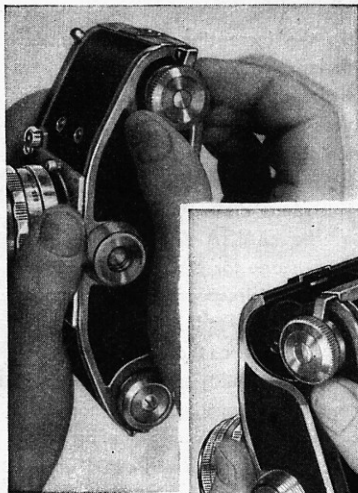

Fig. 4
Hold the camera (Fig. 4) with your left hand. Pull out the button (1) with your right hand and fix it by a short turn either to the left or to the right. Pull away the hinged camera back (40) from the camera body with your right index finger on the lock of the camera back (2) (Fig. 5). The camera back (40) is connected with the body by a hinge. When loading the EXAKTA Varex be careful not to press the dangling camera back against your body, otherwise the hinge may be damaged, so that the camera back (40) could not be shut properly, thus causing penetration of straylight. When closing the camera back (40) take care that it engages correctly in the groove on the camera body. Press the camera back (40) slightly against the camera body. Turn the button (1) to the left or right, until it snaps into position. The camera back is now bolted safely.